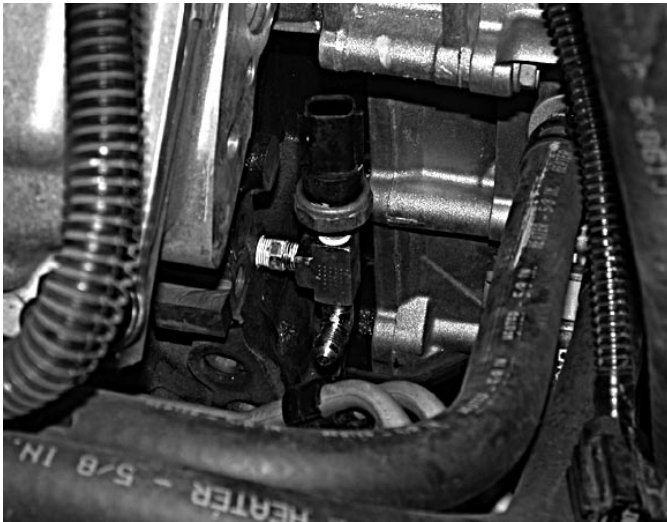

Fig. 2-a
- B.** Install the supplied TEE fitting into the location where the factory sending unit was originally located. With the supplied TEE fitting installed and the outlets facing up and down install the factory sending unit into the outlet of the tee that is facing up. Install the supplied 1/8" NPT x -4 x 90° fitting into the outlet that is facing down and orientate the supplied 90° fitting to face to the passenger side of the vehicle. (See *Fig. 2-a.*)